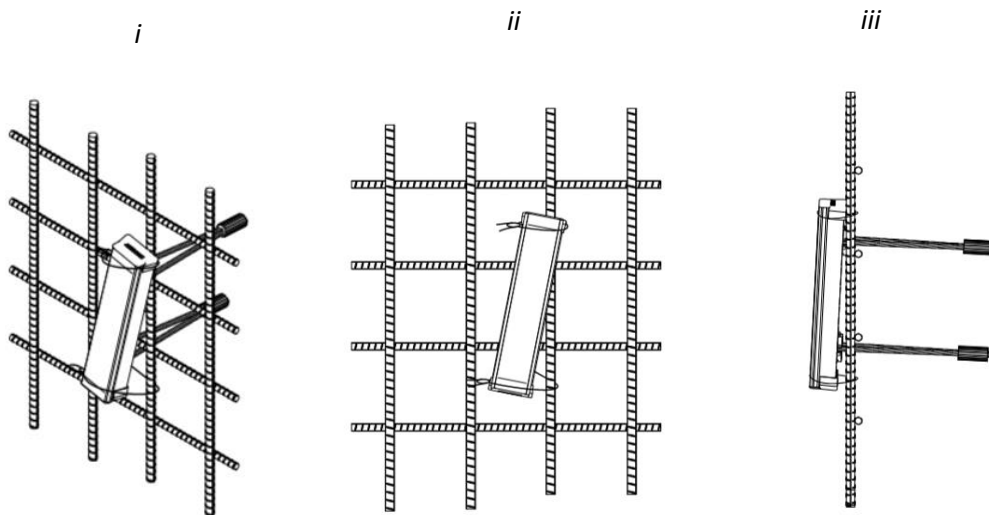

Figure 5: Installation Using GI Wire (Misaligned).
- Ensure MLB is not misaligned, refer Figure 5.